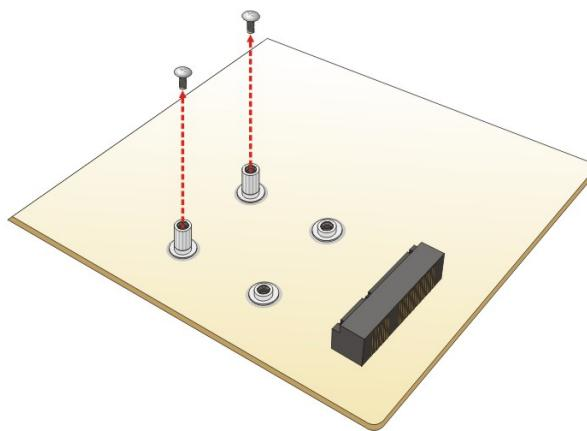

Figure 4-2: Removing the Retention Screws
Step 2: Remove the retention screws. Remove the two retention screws as shown in **Figure 4-2**.